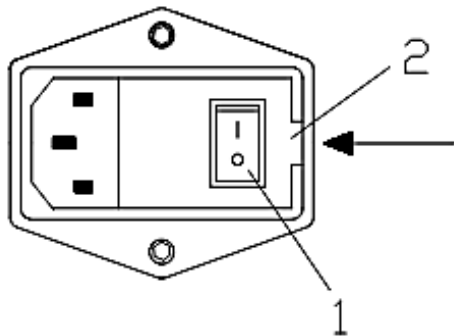

Fig 30
The two mains fuses are installed on the back of the instrument beside the power switch, Fig 30 (1).
- Open the small cover, Fig 30 (2) of the fuse holders from the right side (see arrow) by means of a flat screw driver.